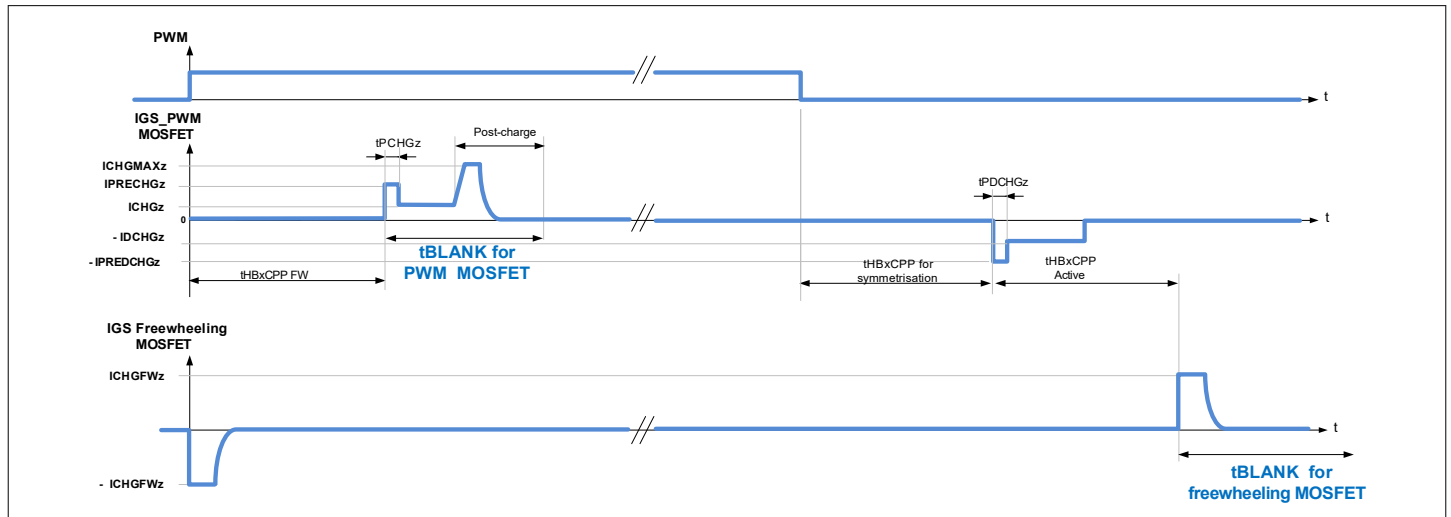

Figure 33 Blank time for half-bridges in PWM operation, detection of generator mode disabled ($EN_GEN_CHECK = 0$)
- The blank time of the PWM MOSFET starts at the expiration of the cross-current protection time of the FW MOSFET ($t_{HBxCCP\ FW}$). Refer to Figure 33.
- The blank time of the FW MOSFET starts after expiration of the cross-current protection time at turn-off of the PWM MOSFET ($t_{HBxCCP\ Active}$). Refer to Figure 33.